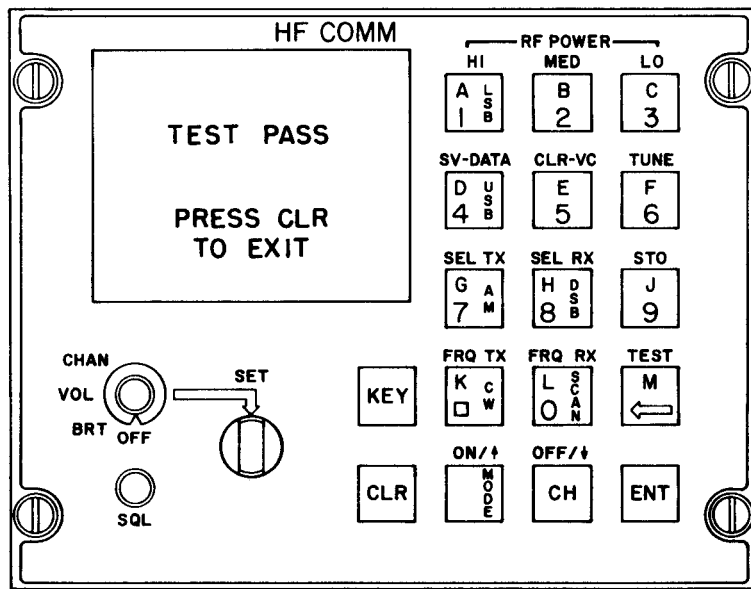

Figure 2-18. Passed Test Display
3. **Passed test display.** Refer to figure 2-18. For a passed test, the CRT screen displays the words TEST PASS, and gives test exit instructions at the bottom of the screen.